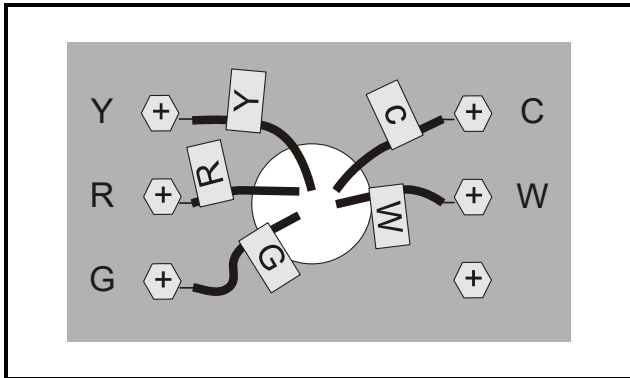

Figure 3-1 - Thermostat Wires with Labels
3. Identify each wire attached to the old thermostat as shown in **Figure 3-1**. Before removing wires from the old thermostat's switching sub-base, label each wire with the letter on the old thermostat. Ignore wire colors and use the letter designation only.